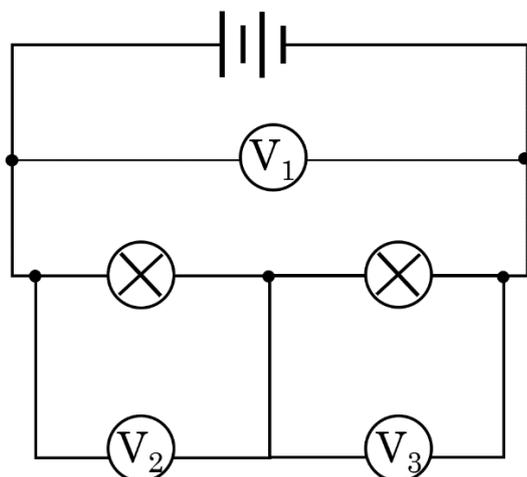
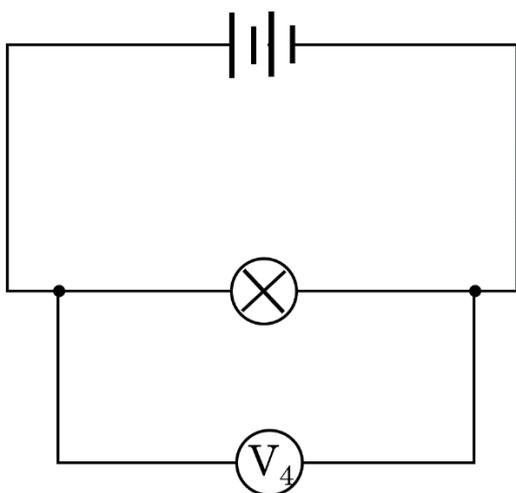

Fig. 5. Measuring potential difference (Voltage) in series circuit
Fig. 6. Measuring potential difference (Voltage) in simple circuit
1) Predict voltage values to be measured at each of V₁ - V₃ in the circuit shown in Fig. 5, given voltage of one dry cell is 1.5V, and fill your prediction in Table 2 below.
2) Measure voltage value at each of V₁ - V₃ shown in Fig. 5 and fill it in Table 2.
Table2. Voltages in Fig.5
3) Remove one of the miniature bulbs from the series circuit and assemble a simple circuit again (see Fig. 6).
4) Measure voltage value at V₄ shown in Fig. 6 and fill it in Table 3 below.
Table3. Voltages in Fig.6
Through Experiment 3, learners learn the voltage values (V1 -V4) measured across two points before and after each bulb are not consistent between Fig. 5 and Fig. 6.